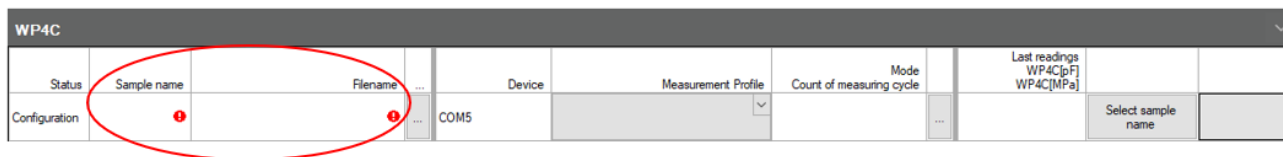

Figure 8 Enter Sample Name and Filename
1. Enter a sample name in the manager line (Figure 8).